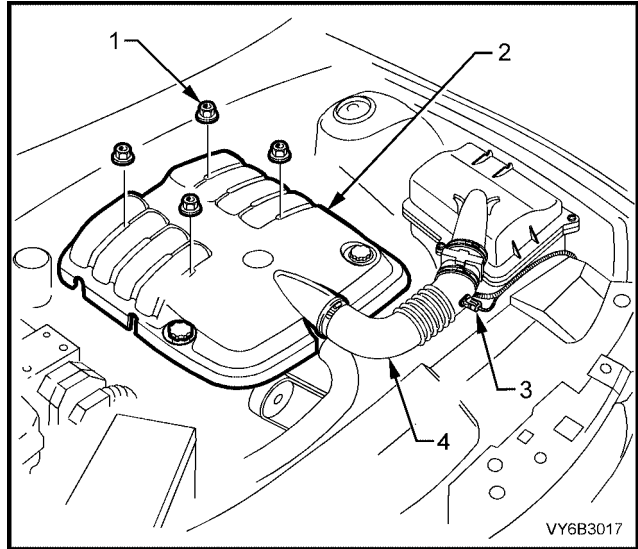

Figure 6A3-46
6. Using quick connect release Tool No. 7371 (not shown in Figure 6A3-47), install over fuel line .
7. While holding the fuel line quick connect (1), push on Tool 7371 to release the quick connect fitting (1) from the fuel rail. Pull back on the quick connect and remove.
8. Disconnect the vapour line connector (2) from the EVAP purge valve (3).